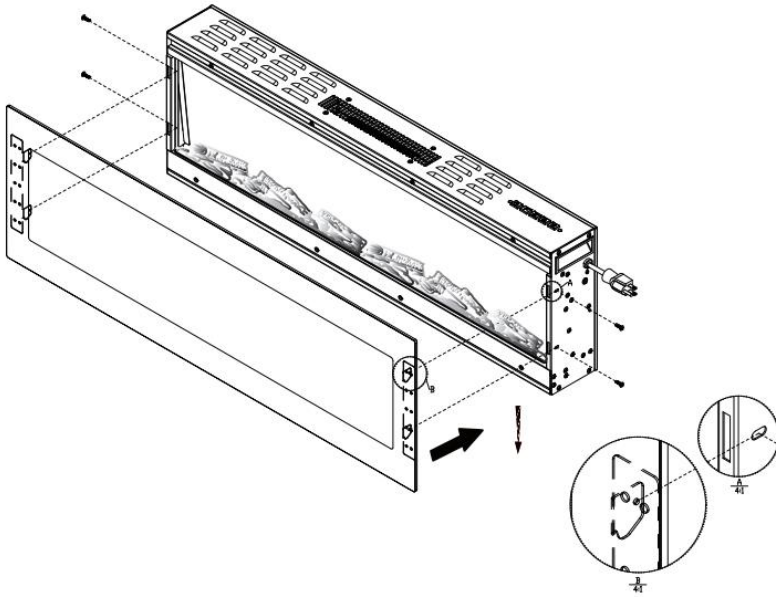

Fig.8
- J. Fix front glass back to the fireplace body See Fig. 8